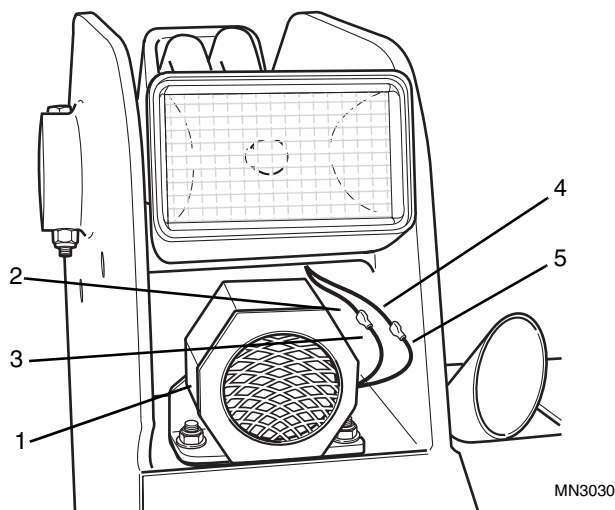

Figure 8-18 Back-up Alarm Unit
The back-up alarm consists of an electronic alarm unit (Fig. 8-18, 1) mounted above the hydraulic reservoir on the left side of the vehicle frame, and two switches (Fig. 8-19, 1 & 2) that are connected to the travel/steering control linkage.
The electronic alarm unit (Fig. 8-18, 1) receives +12 VDC from a 15 AMP fuse in the fuse block. The alarm unit -12 VDC lead is routed to two switches (Fig. 8-19, 1 & 2), mounted below the travel/steering lever crossmember. Each switch is connected to a travel/steering lever. The switches are connected in series, so both must be activated to complete the alarm unit circuit to ground, causing the alarm unit to sound an audible warning.
1. The back-up alarm (Fig. 8-18, 1) should sound whenever both travel/steering controls are moved to the rear. If the alarm (1) sounds after the vehicle has begun moving, refer to Section c, "Adjustment," and adjust both switches (Fig. 8-19, 1 & 2) for proper operation. If the alarm DOES NOT sound, proceed to the next step.
3. Disconnect pink chassis wire #23 (Fig. 8-18, 2) from the alarm red lead (3), and black chassis harness #2L (4) from the alarm black lead (5).
4. With the ignition switch in the RUN position, check pink chassis wire #23 (Fig. 8-18, 2) for 12VDC power. If power is NOT present, a 15 amp fuse in the fuse block is most likely defective. Check and replace the fuse.
5. If 12 VDC power is present at pink chassis wire #23 (Fig. 8-18, 2), reconnect the wire to the alarm unit red lead (3). Using a suitable jumper wire, connect the alarm unit black lead (5) to a vehicle ground. If the alarm DOES NOT sound, the alarm unit is defective, and must be replaced. If the alarm DOES sound, reconnect black chassis wire #2L (4) to the alarm unit black lead (5), and proceed to the next step.